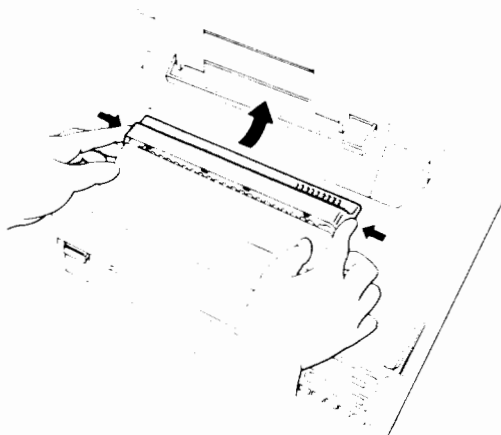

Figure 7-16 Removing the ozone filter cover
1. Remove the filter cover by pushing on the round "buttons" at each end of the cover and sliding it towards the back of the printer. Then lift the cover up. Refer to Figure 7-16.